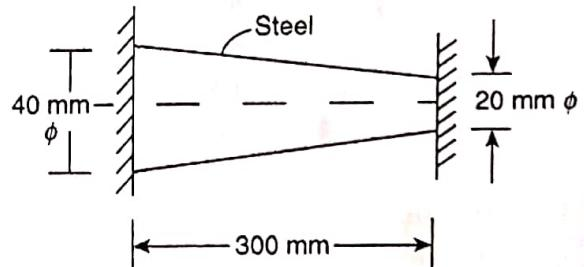

Figure 2.33
4. A tapered bar of steel is rigidly held between two vertical supports as shown in Fig. 2.33. If the temperature of the bar is increased by 20°C , what is the maximum stress developed in the bar? $E = 200 \text{ GPa}$, $\alpha = 11.7 \times 10^{-6}/^\circ\text{C}$.